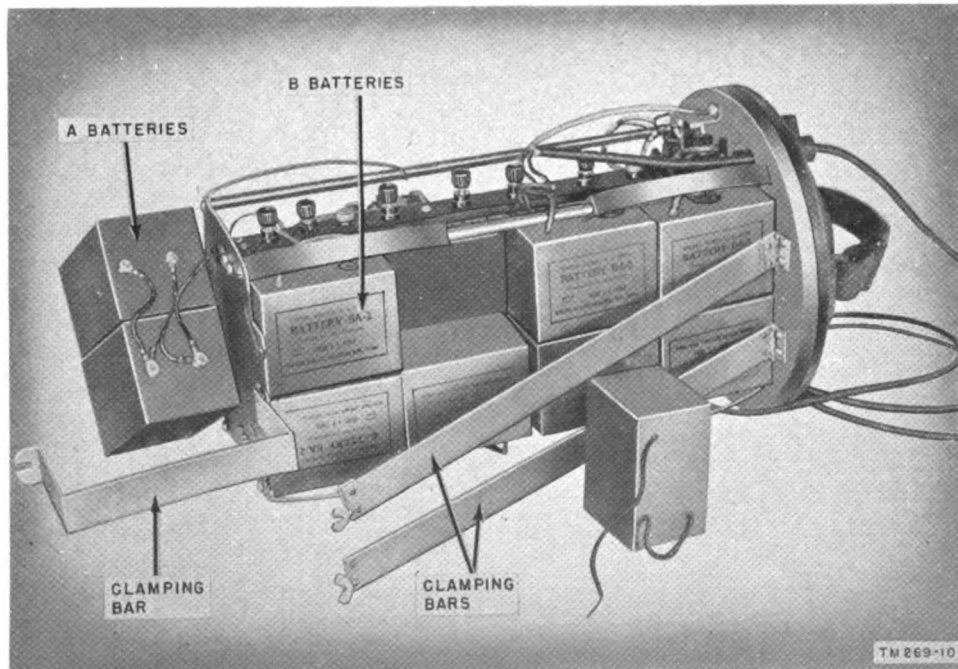
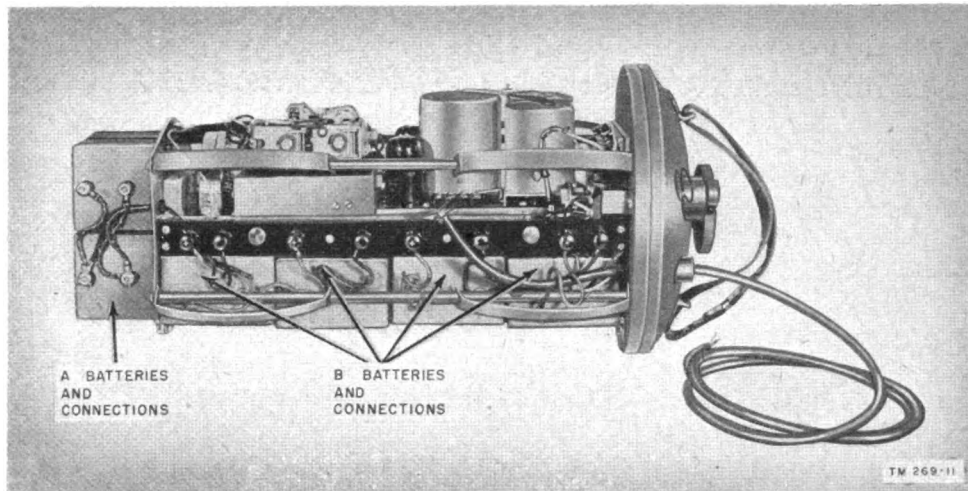

Figure 10. Receiver, showing clamping bars.
Figure 11. Receiver, showing battery connections.
- (2) Loosen the wingnuts on the two B-battery clamping bars (fig. 10) and swing the clamping bars open. Place the eight B-batteries (Batteries BA-2) in two rows with their bottoms together as shown in figure 10. Make sure that the batteries are turned so that the red battery leads line up opposite the binding posts marked B+. Swing the clamping bars closed and tighten the wingnuts. Loosen the binding post knobs and insert the red battery leads in the holes of the binding posts marked B+. Insert the black battery leads in the holes of the binding posts marked B-. Tighten the binding post knobs firmly.
- (3) Loosen the wingnut on the A-battery clamping bar (fig. 10) and swing the clamping bar open. Place the two A-batteries (Batteries BA-35) side by side (fig. 11) against the base of the receiver, making sure that the battery terminals are on the same side of the unit as the receiver leads which connect to the terminals. Swing the clamping bar closed. The batteries must be connected in parallel. Connect a wire between the two terminals marked — and connect a second wire between the two terminals marked +. Then connect the receiver lead with the tracer to one of the positive terminals, and connect the other lead from the receiver to one of the negative terminals (fig. 11).